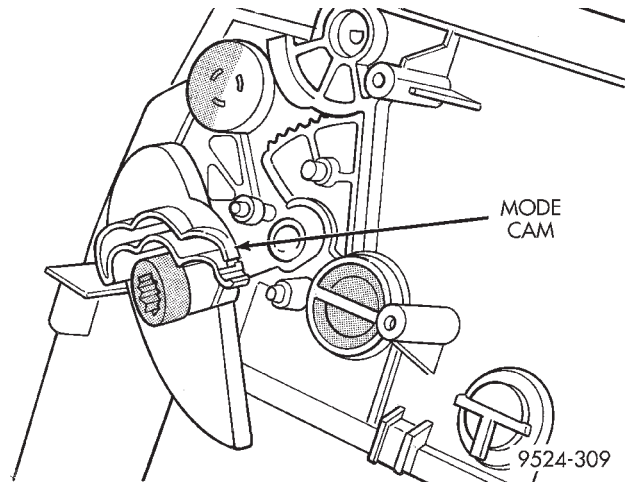
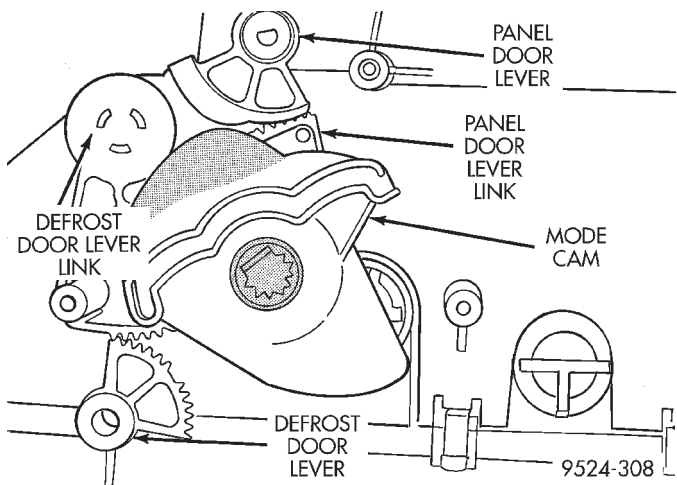

Fig. 102 Mode Motor Cam Removal
Fig. 101 Mode Motor Cam
(30) Remove mode motor cam from housing (Fig. 101) and (Fig. 102).